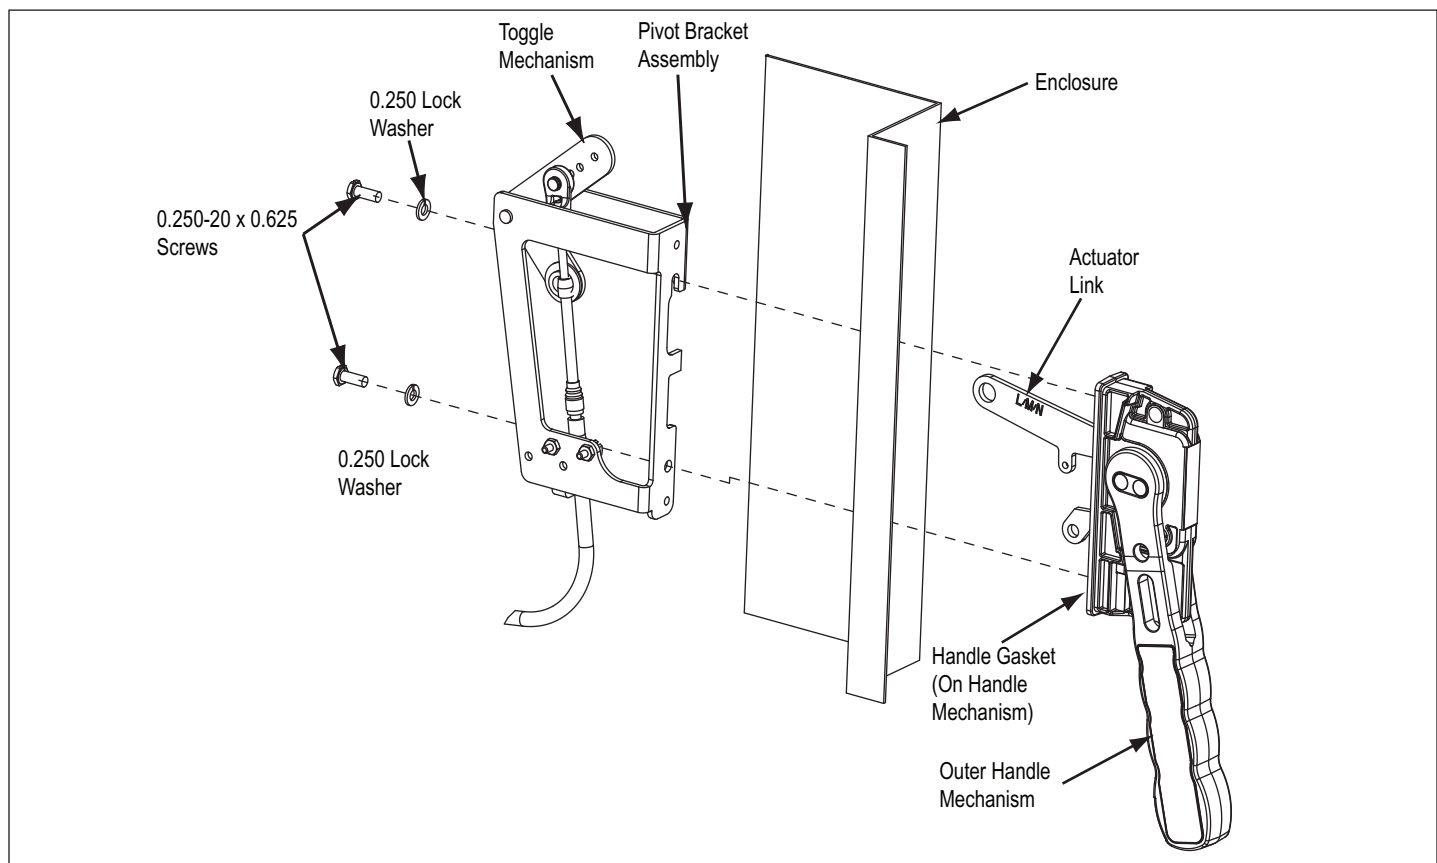

Figure 1. Pivot Bracket and Outer Handle Mechanism Assembly.
1. Remove the two 0.250-20 x 0.625" screws and lock washers from the outer handle mechanism. Place each screw and lock washer through the pivot bracket assembly. Thread the retaining washers enclosed in the parts kit onto the 0.250-20 x 0.6258" screws (see Figure 1).
2. Connect the actuator link from the outer handle mechanism on the pivot bracket assembly. Mount the pivot bracket assembly to the enclosure and outer handle mechanism by securing the mounting hardware. Attach the E-Ring supplied in the parts kit to the actuator link (see Figure 1).